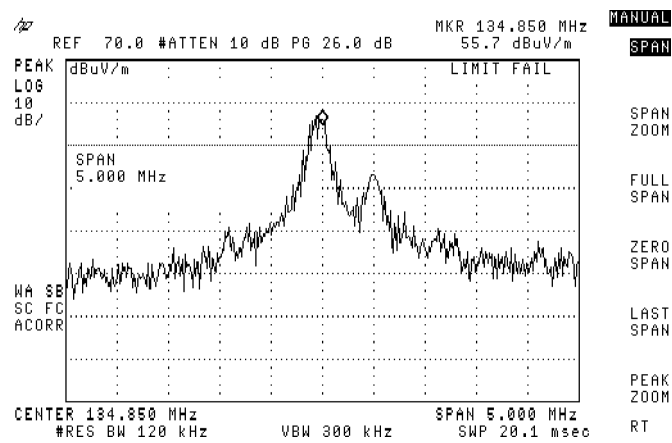

Figure 3-60. Narrowing the Span to Zoom in on a Signal
6. Press 5, **[MHz]**. See Figure 3-60.